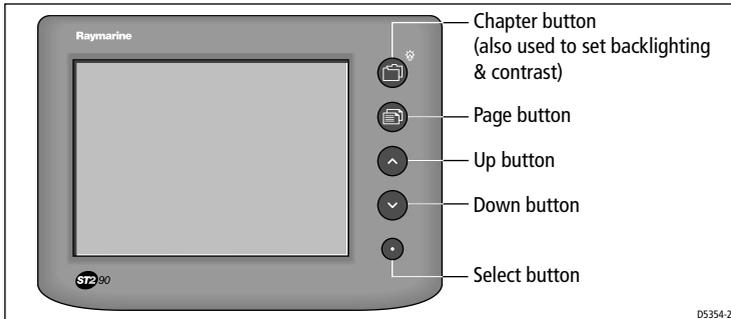
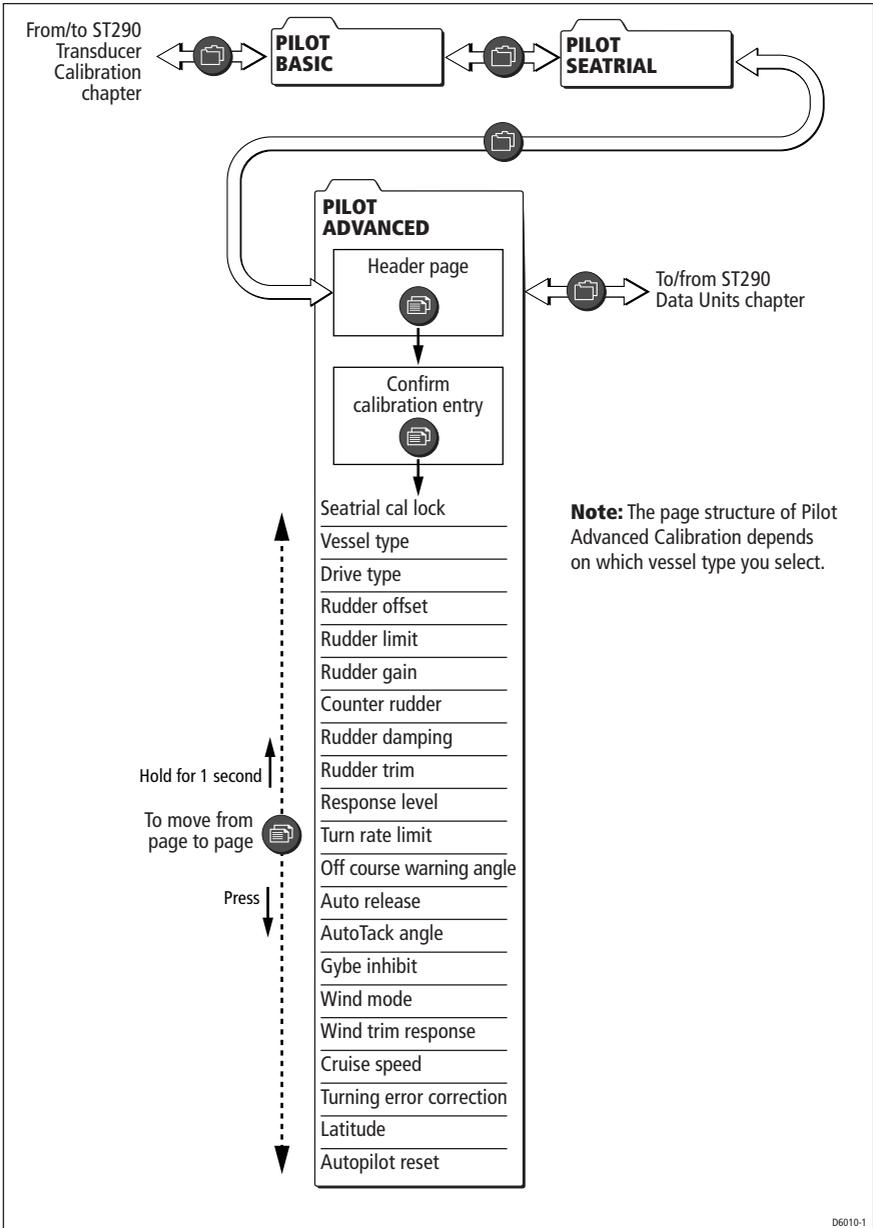

Figure 4-4: The ST290 Graphic Display
Figure 4-5: Pilot Advanced Calibration mode
2. Using an ST290 Graphic Display (*Figure 4-4*), enter User Setup, as described in *Section 7* of this handbook. Then press the  button to scroll to the PILOT ADVANCED CAL setup chapter (see *Figure 4-5*)